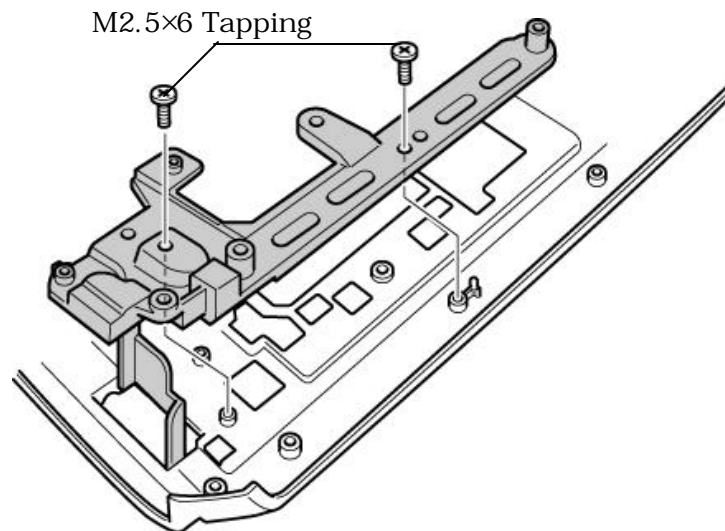

Figure 4-46 Removing the hinge (2)
1. Spread out the insulation sheet without detaching it from the side of the bezel, as shown in Figure 4-46.